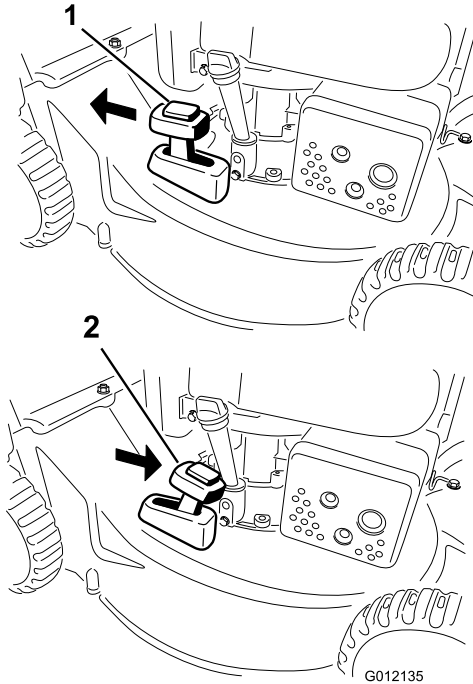

Figure 16
2. Press the button on top of the Recycling/bagging lever and move the lever to the **recycling** mode (model 20836 only) (Figure 16).
2. To bag the grass clippings, install the grass bag (refer to Installing the Grass Bag). Press the button on top of the Recycling/bagging lever and move the lever to the **bagging** mode (model 20836 only) (Figure 16).
Note: The Recycling/bagging lever should be in the bagging mode (Figure 16).